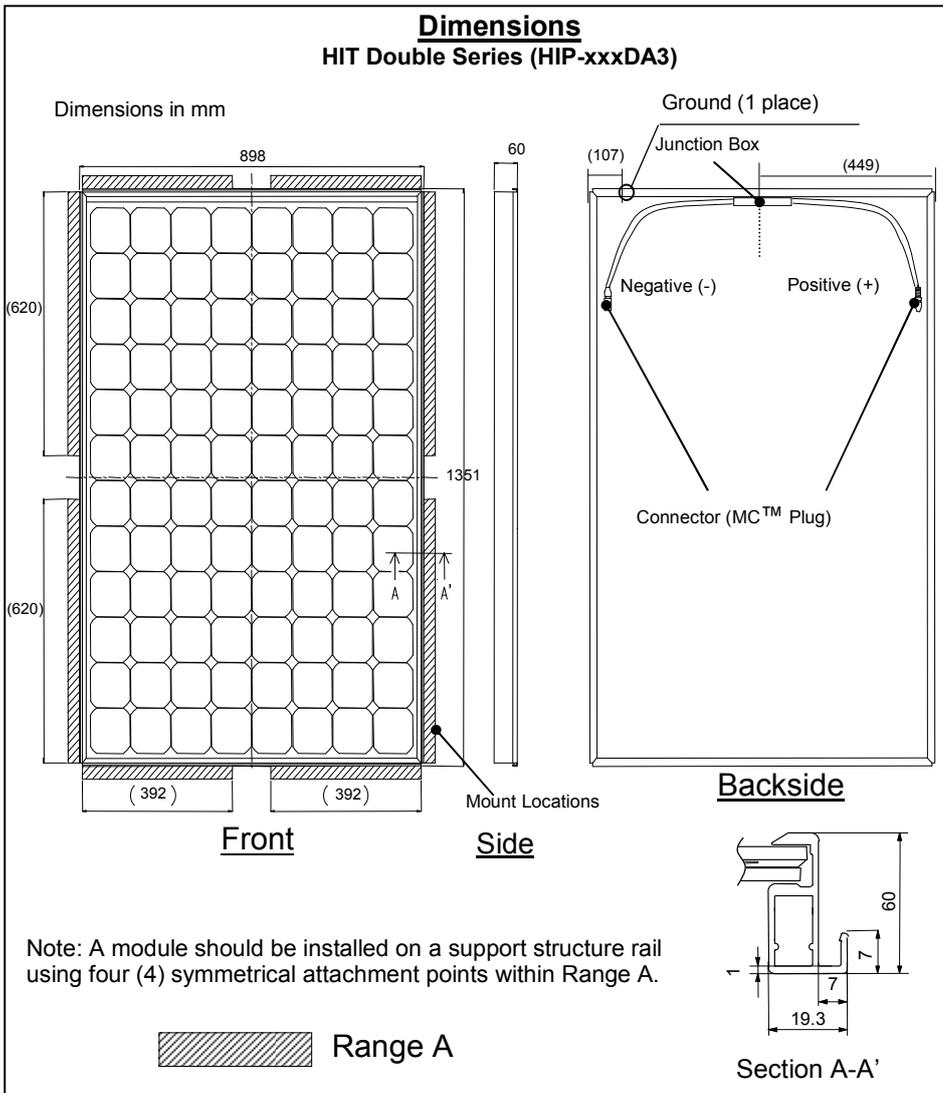

Figure 4. Dimensions
- HIT Double modules should be mounted at four (4) symmetrical quarter points within the shaded areas (Range A) shown in Figure 4, or any mounting method with a continuous attachment, by which those four points are included in each side.